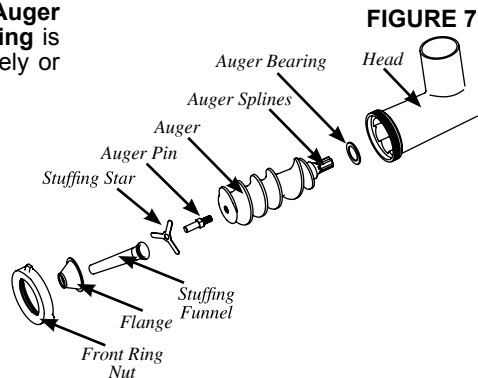

FIGURE 7
3. Insert the **Auger**, with the **Auger Bearing** attached, into the **Head** (Figure 7). Align the **Auger Splines** with the **Drive Shaft** of the **Grinder**.